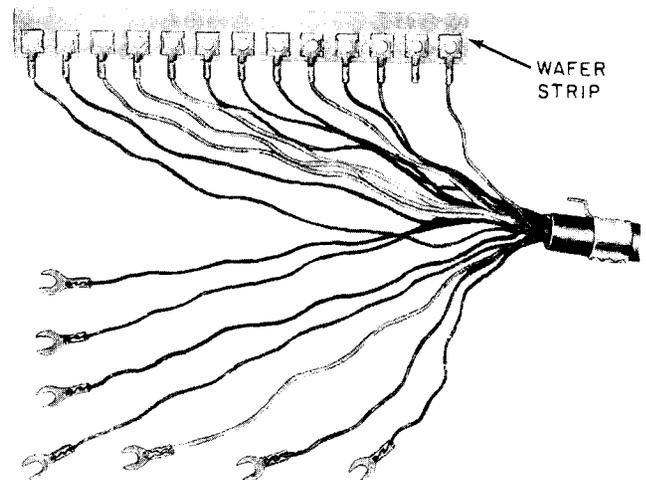

Fig. 1—Nonslotted Wafer Strip End of Mounting Cord, Early Type
2.06 Replace mounting cord of early manufacture (Fig. 1) as follows: